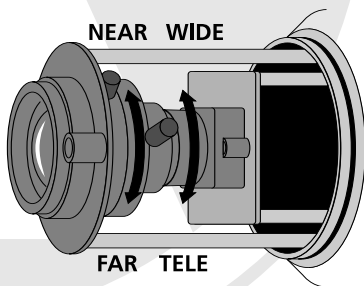

Figure 3
STEP 3: Once the picture appears on the monitor, make the Zoom Adjustment by rotating the long screw (NEAR-Anti-clockwise, FAR Clockwise) until you get the desired view. Next make the Focal Adjustment by rotating the long screw (TELE-Anticlockwise, WIDE Clockwise) until you get the desired view (as shown in Figure 3). (If the long screw does not move turn it Anti-clockwise to unscrew it, this will loosen it and allow you to make the adjustment, after adjustment tighten both screws by turning Clockwise, see Figure 4).